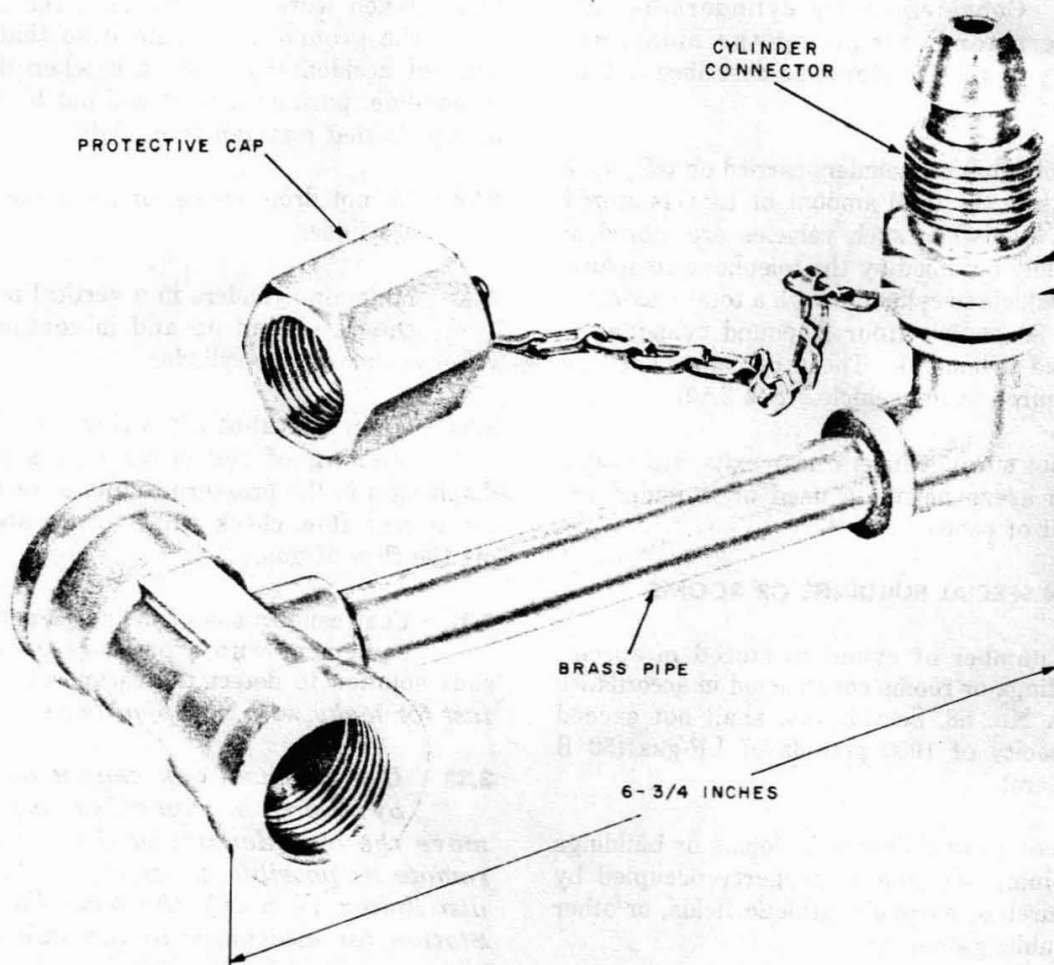

Fig. 3—C Propane Manifold
**5.02** The C Propane Manifold (Fig. 3) consists of a cylinder connection fitting joined by brass pipe to a T-fitting having two internally threaded outlets which accommodate the fittings of the items to be connected.